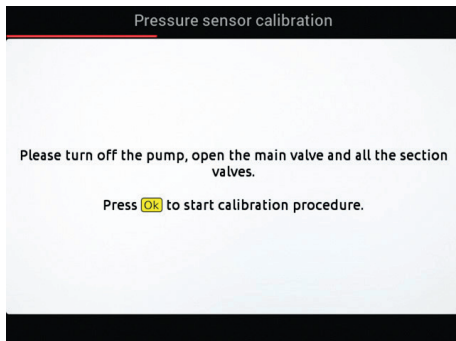

Fig. 119
- 2 The message in Fig. 119 is displayed: follow the instructions, then start the procedure by pressing **OK**.